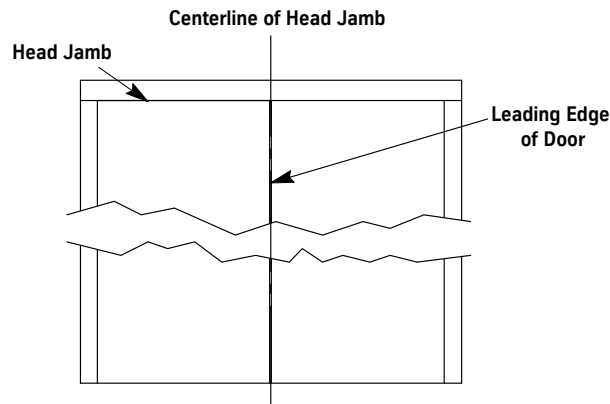

Figure 31 - Plumb the Doors
1. Align the leading edge of the door to centerline of the head jamb and the sill. See Figure 31.